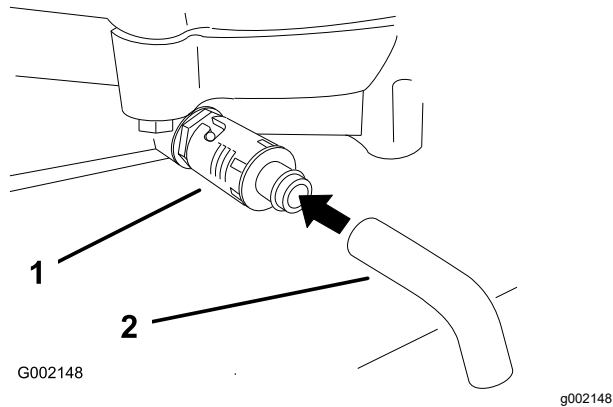

Figure 18
4. Place a pan below the drain. Rotate the oil drain valve to allow the oil to drain (Figure 18).